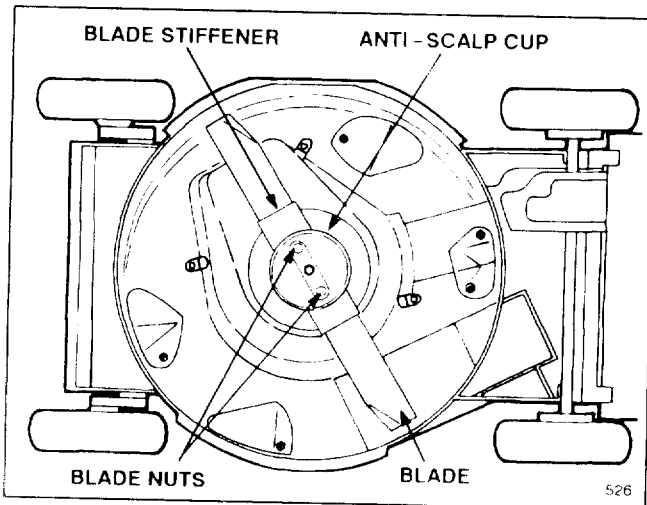

Figure 33
4. Remove (2) blade nuts, anti-scalp cup, blade stiffener, and blade (Fig. 33).